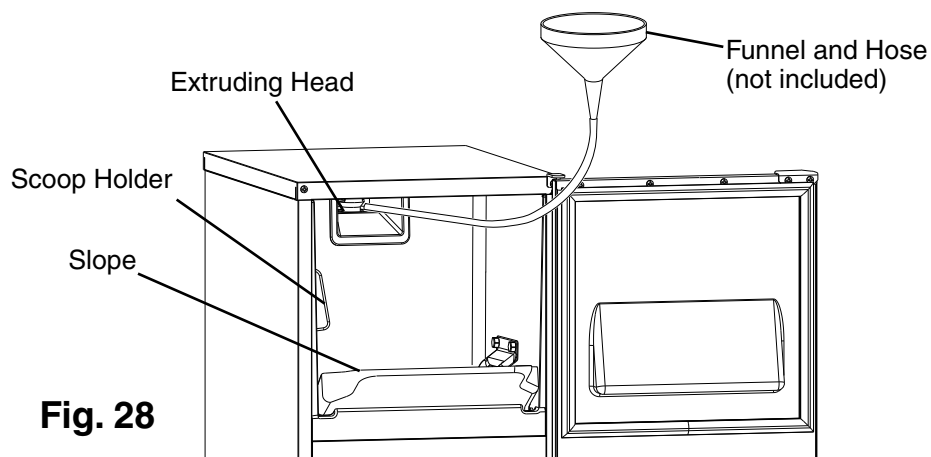

Fig. 28
- 6) Using a clean funnel and hose (not included), pour 1 qt (1 l) of cleaning solution over the extruding head. See Fig. 28. Allow the appliance to sit for 10 minutes before operation.